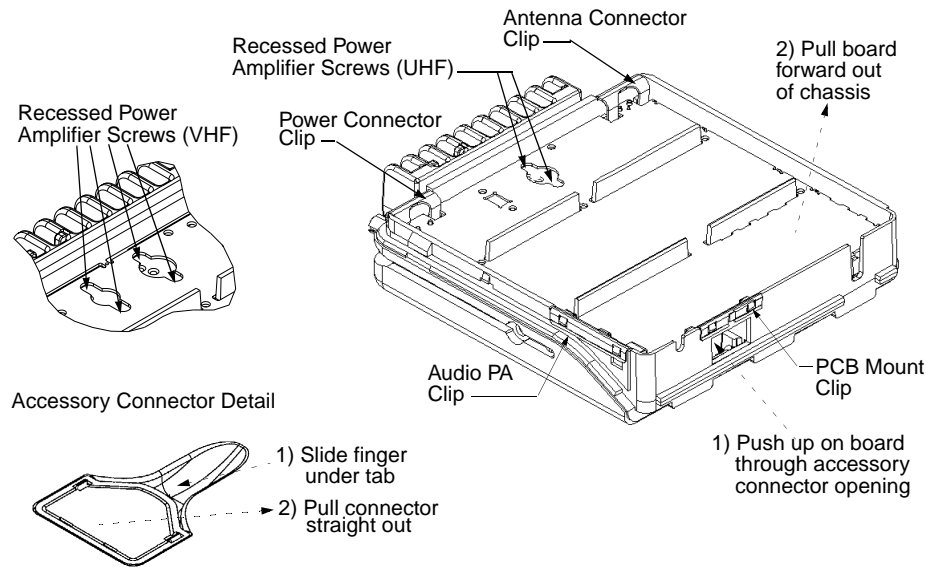

Figure 5-7. Removing the Transceiver Board - Mid Power Models (except 800 MHz and 900 MHz)
4. Remove the recessed Power Amplifier Device screws using a T-8 Torx Driver, four on VHF, two on UHF (see Figure 5-7).